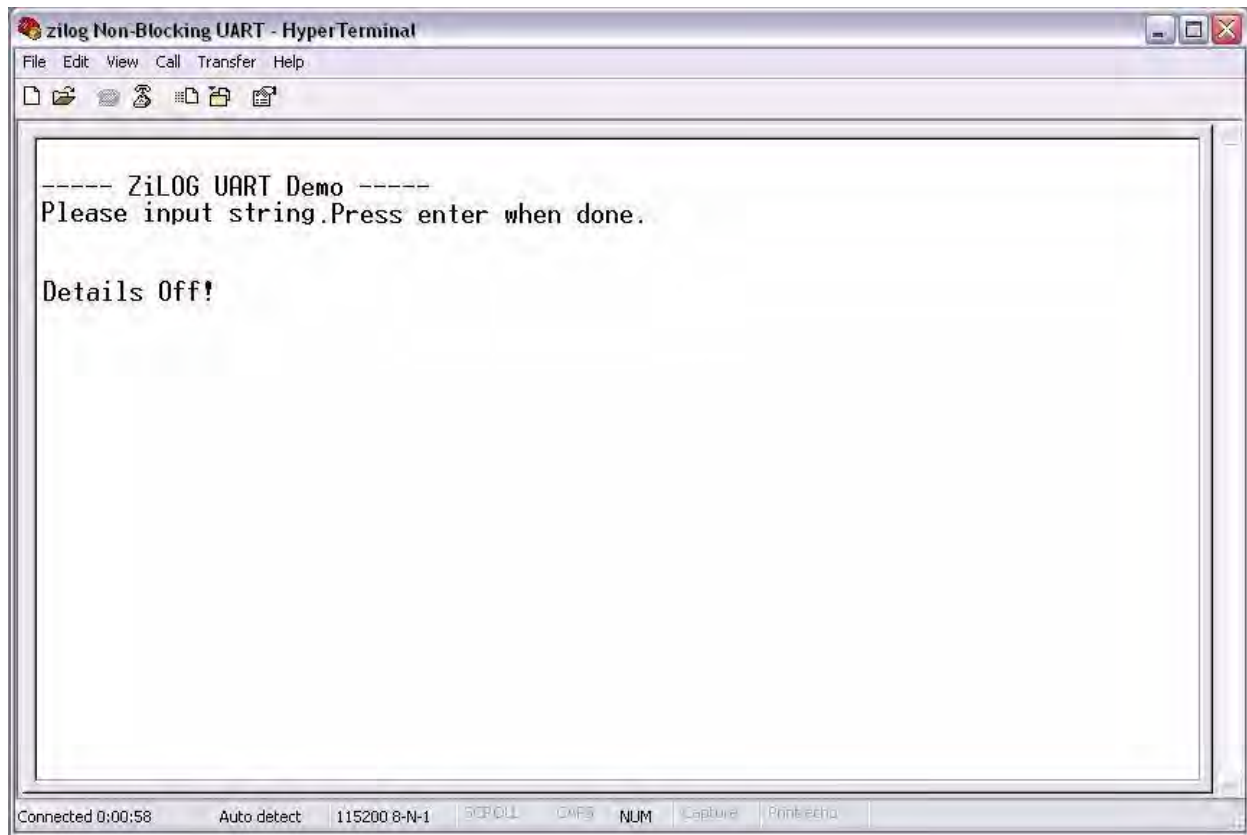

Figure 14. Showing Details Off notification
14. To turn off timing details, press the Tab key, then enter the `DETAILOFF` command and press Enter. The HyperTerminal window will display `Details Off!`, as shown in Figure 14.